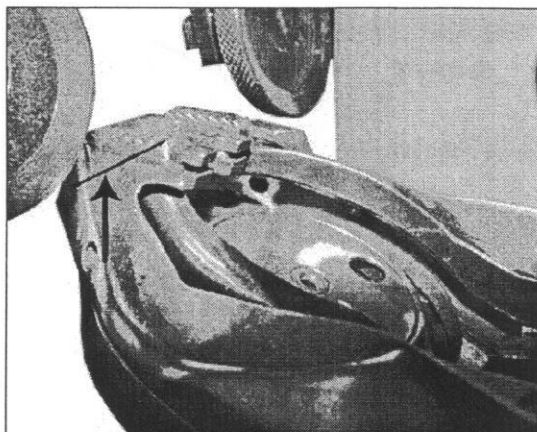
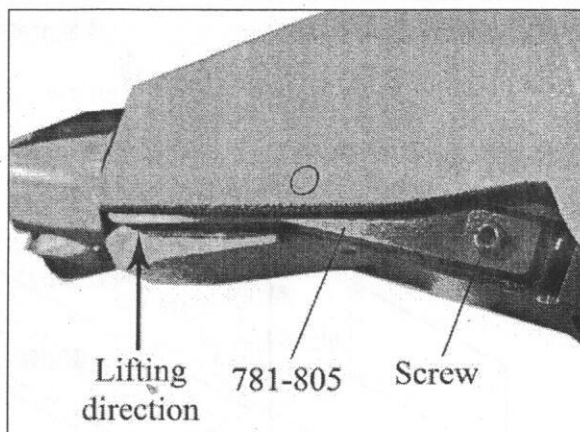

Fig.15
Fig.16
#### 4.5 Adjusting the height of claws (Fig.15、 Fig.16)
- Turn the pulley in the correct direction, till the claws come to its highest position. (Fig.15)
- Loosen the screw on the claw lifting lever (781-805) as shown in Fig.16.
- Lift the end of claw lifting lever (781-805) follow the arrow as shown in Fig.16, till the height of claw is suitable.